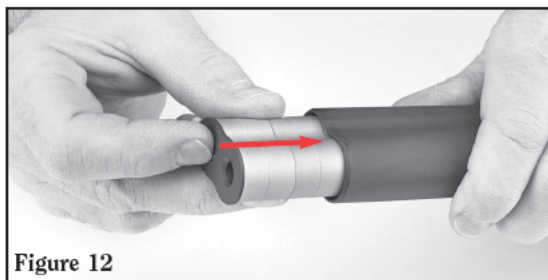

Figure 12
5. Gently insert the baffle stack into the sleeved barrel assembly. (See Figure 12.)